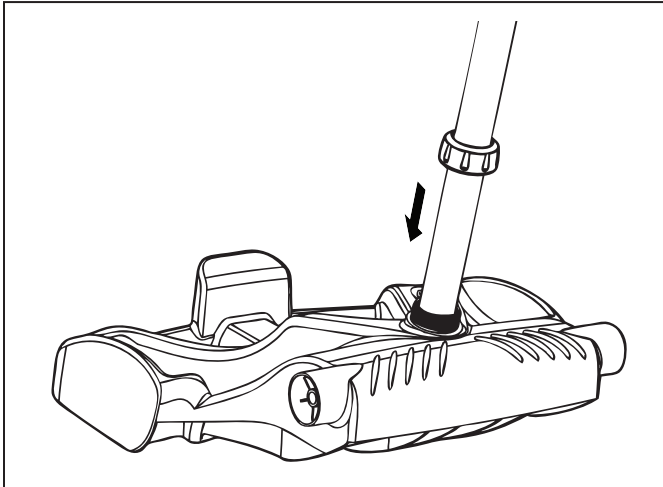

Figure 4. Twist Handnut to Secure Frame
- Slide the handnut over the tube and twist to tighten onto base unit (Figure 4).